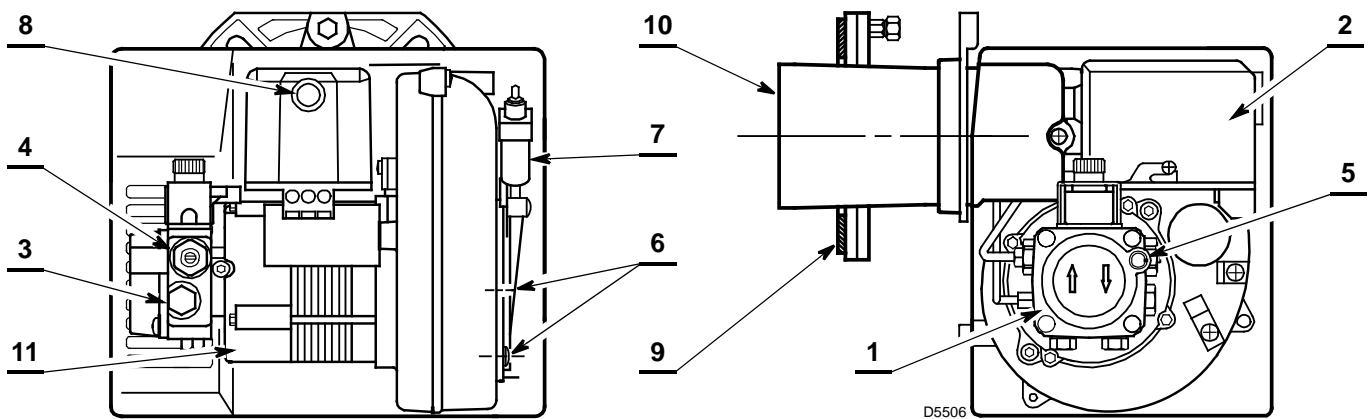

Fig. 1
- It is necessary that the insulating gasket 9)(Fig. 1) is placed between the boiler door and the burner flange. The insulating gasket has six holes, which, if necessary, can be modified as shown in Fig. 6.